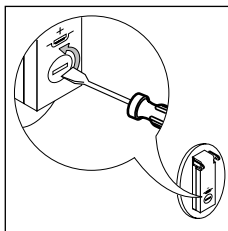

fig. 6
- Turn the battery cover (fig. 6) placed on the back in an anti-clockwise direction until it is released.